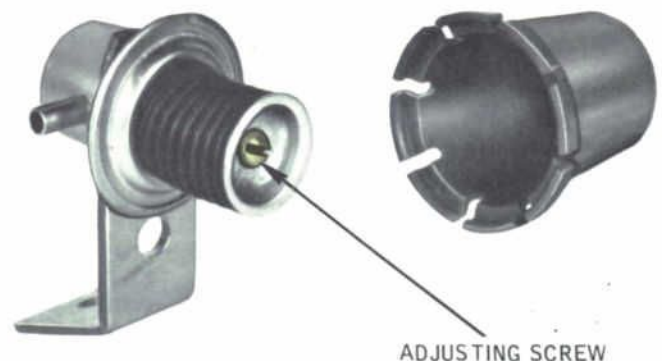

Fig. 42 — Distributor Vacuum Advance Control Valve Adjustment
8. Remove the clamps from the vacuum tubes and reconnect the vacuum line to the distributor. Remove the distributor vacuum advance control valve cover as shown in Fig. 42.
10. It is normal during this period for a buzzing sound to be heard. If it takes less than one second or more than three seconds for the distributor vacuum to fall below six inches of mercury, adjust the valve. Turning the spring end adjusting screw (Fig. 42) counterclockwise will increase the time that the distributor vacuum remains above six inches of mercury after the throttle is closed. One turn of the adjusting screw will change the valve setting by approximately one-half inch of mercury. If the valve cannot be adjusted to specifications, replace the valve.